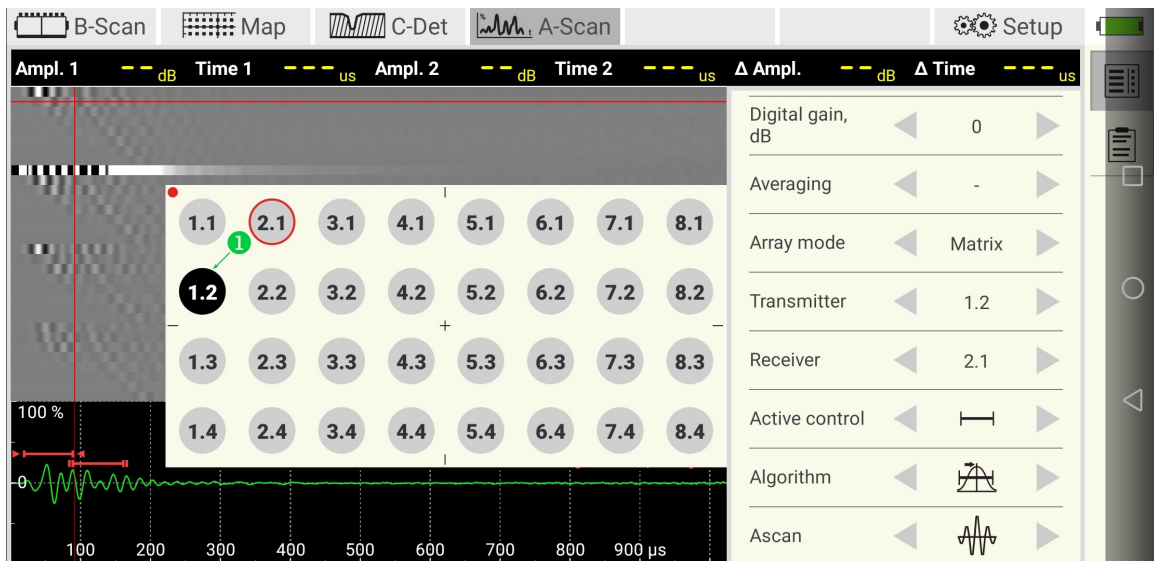

Figure 12: Selecting a transmitter in matrix mode
In the `matrix` mode, the operator can select rather a single transmitter than a group ① (Figure 12). Receiver selection flow does not change.